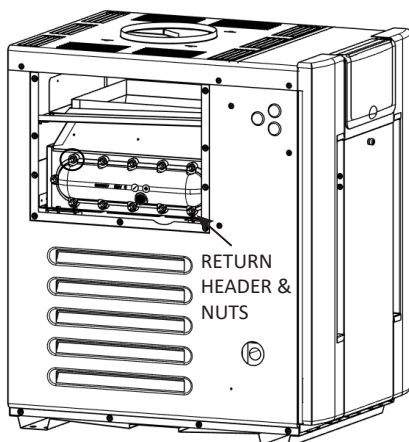

Figure 2. Service Panel Removal for Header
8. Remove the twelve (12) 7/16" hex head nuts that secure the return header (See **Figure 2**).